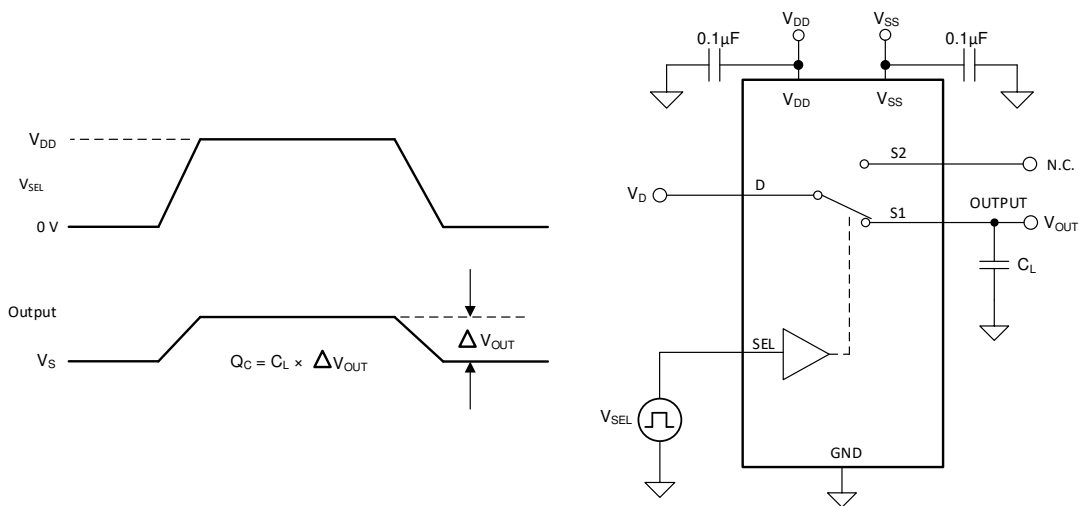

Figure 21. Charge-Injection Measurement Setup
The TMUX1119 has a transmission-gate topology. Any mismatch in capacitance between the NMOS and PMOS transistors results in a charge injected into the drain or source during the falling or rising edge of the gate signal. The amount of charge injected into the source or drain of the device is known as charge injection, and is denoted by the symbol  $Q_C$ . Figure 21 shows the setup used to measure charge injection from Drain (D) to Source (Sx).